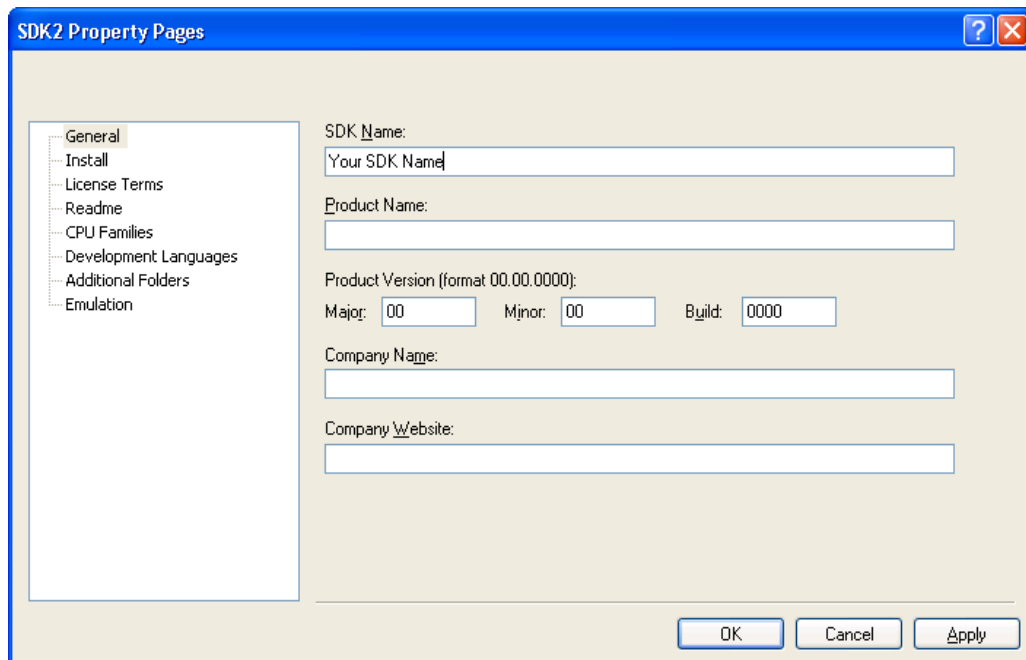

Figure 54. SDK Property Page
2. Enter Your SDK Name as the name for the SDK as shown in Figure 54.
3. Fill in the company name and company website information as shown in figure 54.